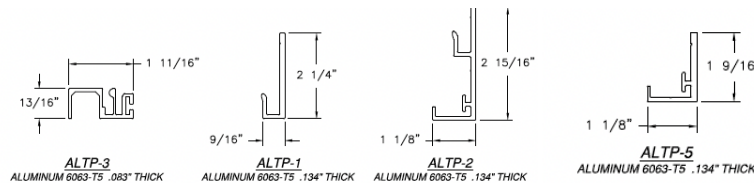

Figure 3- Wall Clip Details
- 7. WALL CLIPS:** The 2 in. x 3 in. 6063 T5 aluminum wall clips (Figure 3) are installed progressively as the ACM panels are installed. The wall clips are attached to the Z-girts using two #12 x 1-1/4 in. self-drilling fasteners per clip. Wall clips may use optional shims to level the exterior surface. The clips are provided by the ACM system Fabricator.